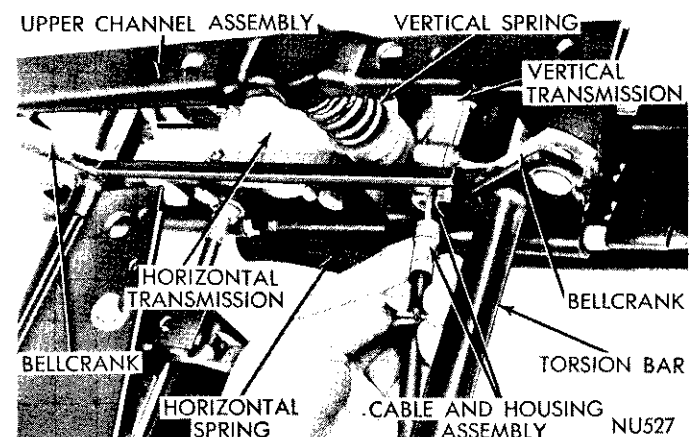

Fig. 5—Removing or Installing Cable and Housing
(1) After motor has been disconnected. Remove corbin clamp from cable housing then slide cable and housing out of connector (Fig. 5).